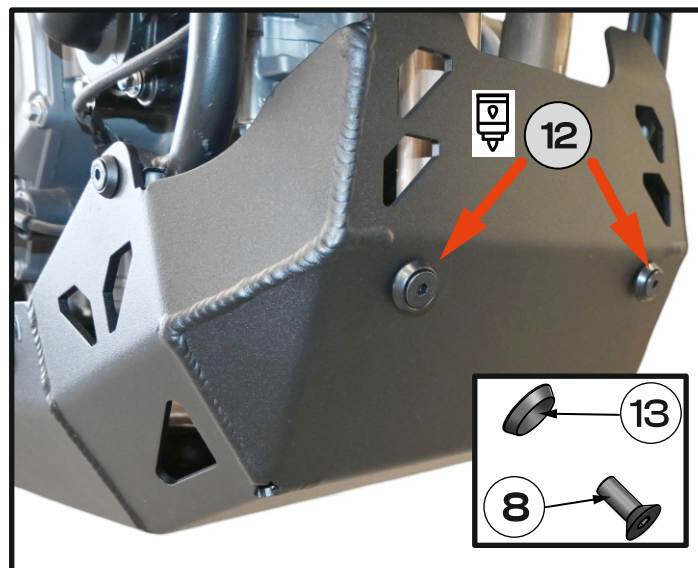

Fig. 14
12. Loosely fasten the skid plate **[1]** using bolt **[8]** with washer **[13]** at the selected mounting points. **[Fig. 13]** , **[Fig. 14]**